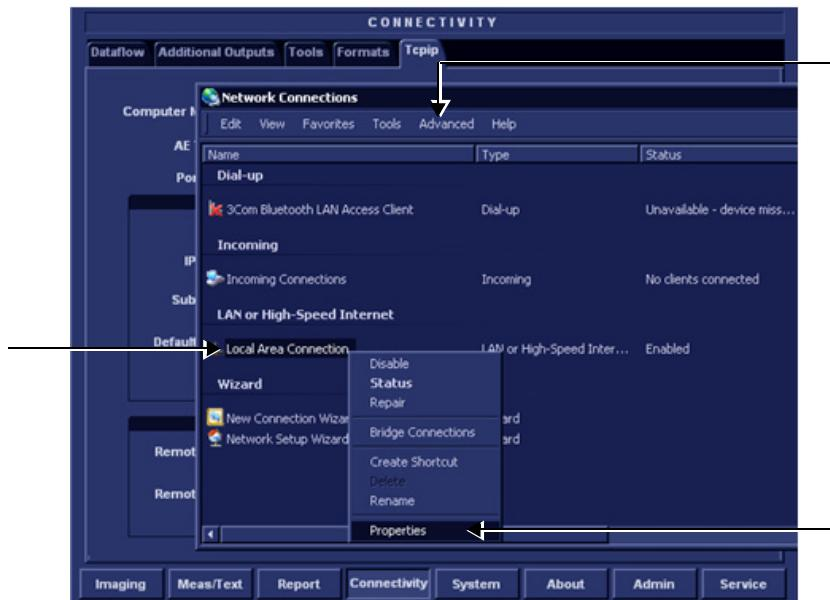

Figure 3-60 Connectivity Dialog Box - TCP/IP Advanced Tab
- 5.) Select the **Local Area Connection**, as shown in Figure 3-60.